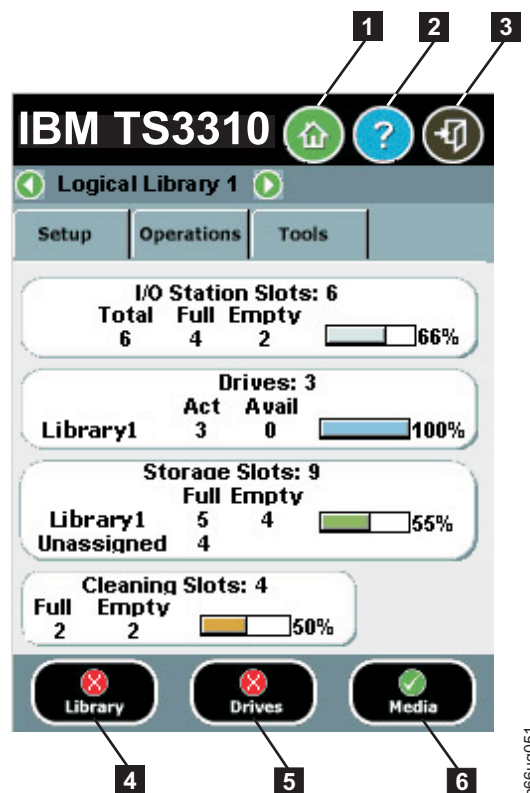

Figure 6-2. Operator Panel common header elements and subsystem status buttons
- **Home** (1 in Figure 6-2) - displays the default **Capacity View** screen.
- **Help** (2 in Figure 6-2) - context-sensitive help for the associated page
- **Logout** (3 in Figure 6-2) - ability to log out
- **Library** (**4** in Figure 6-2 on page 6-2)- opens a library menu selection screen and then the operator interventions for the library.
- **Drives** (**5** in Figure 6-2 on page 6-2)- opens the operator intervention screen for drives.
- **Media** (**6** in Figure 6-2 on page 6-2)- opens the operator intervention screen for media.